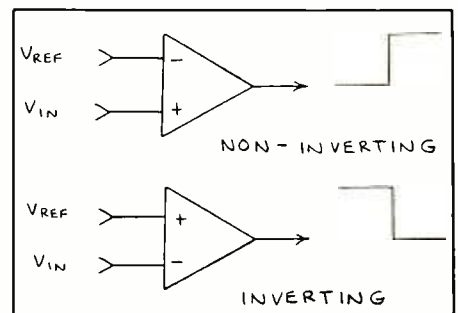

Fig. 4. Basic comparator operating modes.
The most basic comparator application is voltage comparison. There are two basic voltage-comparison modes, both of which are illustrated in Fig. 4.
You're correct. Pin connections for P1 shown in Fig. 1 were for an earlier version of the project. By extension, the "To P1" numbering sequence at the bottom of Fig. 4 should read 18, 7, 6, 5, 4, 3, and 2 left to right. Digi-Key's Part No. Z105-ND is a suitable replacement for the relay specified for K6. If two Radio Shack Cat. No. 275-243 spdt relays are used for K6, connect both coils between +5 volts and the collector of Q6. Then wire the common line of K1 through K5 (was pin 4 of K6) to the toggle lug of one relay, the black-insulated conductor of the ribbon cable to the toggle lug of the other relay (was pin 13 of K6), the normally open contacts of both relays to circuit ground (was pin 8 of K6) and the normally closed contacts of both relays to +5 volts. Finally, do not leave the Armatron powered when you start up or reboot your computer. The printer-port initialization routine that is automatically executed upon start-up or reboot will "command" the Armatron to move in unpredictable ways. Apply power only after the ARM program has begun.—J.J. Barbarello
• In Fig. 4 of my "Musical Instrument Phase Shifter" (October 1988) the symbol for D3 was omitted, though the correct designation and component type are shown in the appropriate location in the line below D2. This diode connects into the circuit with its cathode going to the ac adapter input jack and its anode going to the input pin of IC5 and negative plate of C12. Failure to include D3 in the circuit can destroy C12, IC5 and possibly other components. Note also that IC5 is a 7915 voltage regulator.